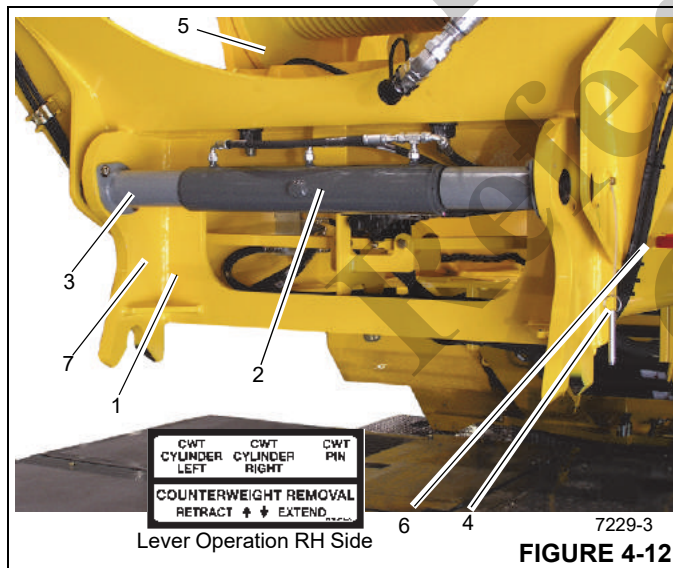

FIGURE 4-12
- When installing counterweight (1) (Figure 4-11), make sure that both auxiliary hoist structure (7) (Figure 4-12) hydraulic mounting pins are fully extended and retainer pins are in place before counterweight is lifted.
8. Using the counterweight removal levers (6) (Figure 4-12), extend the counterweight removal cylinders (5) (Figure 4-11) and carefully lower the counterweight (1) (Figure 4-11) onto the counterweight supports.
9. Remove the detent pins (4) (Figure 4-12) to allow the pin removal cylinder (2) (Figure 4-12) to retract the pins on its rod ends.
10. Use the counterweight removal levers (6) (Figure 4-12) to retract the pins on the rod ends of the pin removal cylinder (2) (Figure 4-12) and unpin the auxiliary hoist structure (7) (Figure 4-12) from the turntable.
11. Retract the counterweight removal cylinders (5) (Figure 4-11) and carefully lower the auxiliary hoist structure (7) (Figure 4-12) onto the counterweight.
13. Secure the counterweight (1) (Figure 4-11) to the auxiliary hoist structure (7) (Figure 4-12) with the counterweight to hoist structure pins (12) (Figure 4-11) and hitch pins (11) (Figure 4-11).
Do not attempt to separate the auxiliary hoist structure (7) (Figure 4-12) from the counterweight (1) (Figure 4-11) while on the counterweight stand (1) (Figure 4-10). The auxiliary hoist structure (7) (Figure 4-12) may hit the counterweight (1) (Figure 4-11) and knock it off the stand.
15. Attach an adequate lifting device with slings to the auxiliary hoist structure (7) (Figure 4-12). Use the crane to carefully transfer the auxiliary hoist structure (7) (Figure 4-12) and counterweight (1) (Figure 4-11) to the ground or suitable transport vehicle.
3. Assemble the standard removable counterweight (1) (Figure 4-11) and auxiliary hoist structure (7) (Figure 4-12) on the ground or on a suitable transport vehicle.
Assemble the heavy removable counterweight (2) (Figure 4-11) and auxiliary hoist structure (7) (Figure 4-12) on the ground or on a suitable transport vehicle.
4. Attach an adequate lifting device with slings to each heavy counterweight weldment's lift lugs. Using the lifting device, carefully install the two heavy counterweight weldments (2) (Figure 4-11) in place on the counterweight auxiliary hoist structure (7) (Figure 4-12). Pin the counterweight weldments in place with the pins.
5. Using an adequate lifting device, with slings attached to the auxiliary hoist structure (7) (Figure 4-12), carefully place the auxiliary hoist structure (7) (Figure 4-12) onto the counterweight (1) (Figure 4-11).
(1) (Figure 4-11) to the auxiliary hoist structure (7) (Figure 4-12) with the counterweight to hoist structure pins (12) (Figure 4-11) and hitch pins (11) (Figure 4-11).
12. Using the counterweight levers (6) (Figure 4-12), fully extend the counterweight removal cylinders (5) (Figure 4-11) and carefully raise the auxiliary hoist structure (7) (Figure 4-12) to meet the mating plates on the turntable.
13. Use the pin control lever (6) (Figure 4-12) to extend the pins on the rod ends of the pin removal cylinder (5) (Figure 4-12) and pin the auxiliary hoist structure (7) (Figure 4-12) to the turntable.
14. Install the detent pins (4) (Figure 4-12) to secure the pins on the rod ends of the pin removal cylinder (2) (Figure 4-12) to keep the auxiliary hoist structure (7) (Figure 4-12) secured.
16. Secure the counterweight (1) (Figure 4-11) to the auxiliary hoist structure (7) (Figure 4-12) with the counterweight-to-hoist structure pins (12) (Figure 4-11).